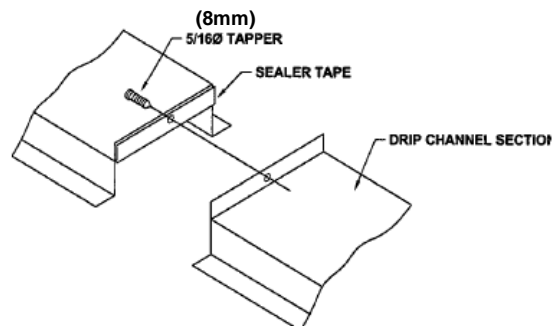

Figure 4 - Drip Channel Assembly
9. Remove the M6(1/4") bolts which hold the drip channel retaining clips to the end panel. Remove the drip channel sections and fasten them together, end to end, by driving a self-tapping M8(5/16") screw through the section end with the larger hole into the mating end with the smaller hole. Stainless steel units will use M8(5/16") stainless steel nuts and bolts. See Figure 4.